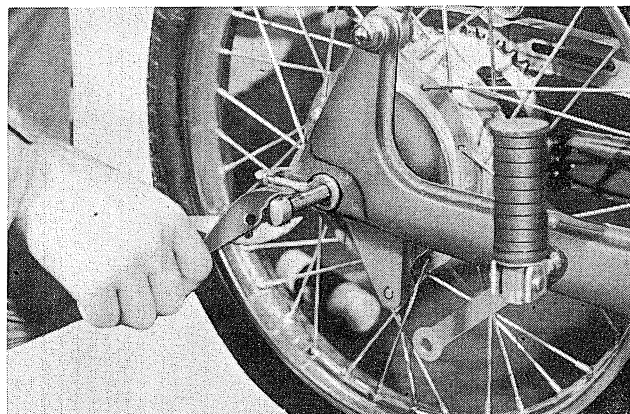

Fig. 4-2-5
- 2) Remove the nut and remove the rear wheel shaft. (Fig. 4-2-5)